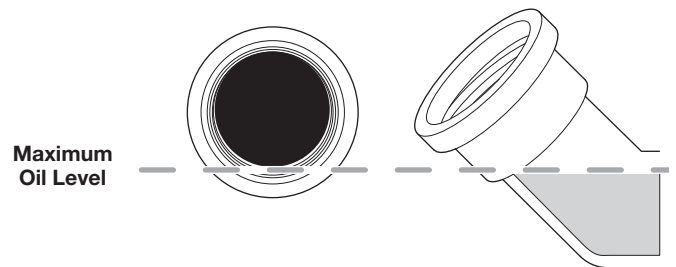

Fig. 28
5. Look into the oil fill hole; use a flashlight if necessary. **The oil level should just touch the bottom thread of the oil fill hole** (Fig. 28). If the oil level is too low, add oil to the oil fill hole until the oil level touches the bottom thread of the oil fill hole.